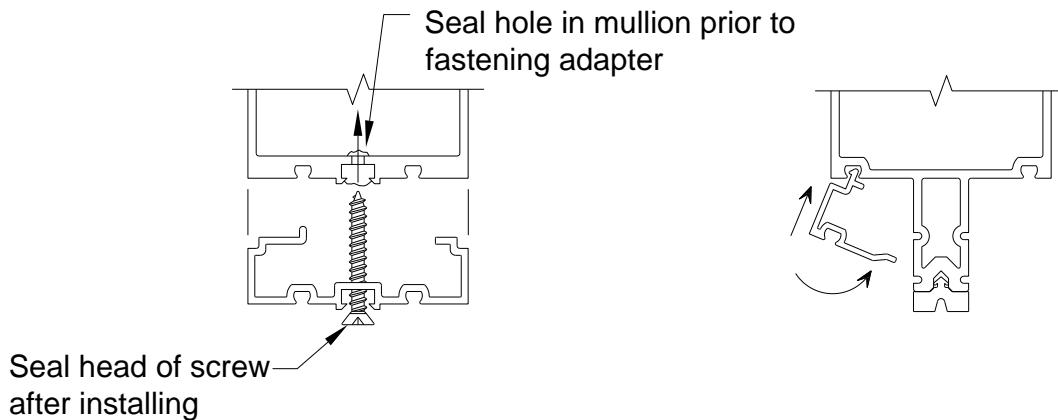

Figure 33: Installing Glazing Adapters
- 14.2 Install vertical adapters first, leaving an equal overlap into each pocket. For captured verticals and all horizontals, insert the hook side into the glazing reglet, then insert leg into reveal on mullion. See *Figure 33*. Refer to section 12.0 if vertical mullion is spliced within a spandrel lite. Glazing adapters must be installed after mullion splice is sealed.
- 14.3 For SSG mullions, install locator leg into one of the glazing reglets. Locate, match drill, and seal penetrations, then secure to mullion with FS-318 fastener 3" from the ends and 12" O.C. See *Figure 33*.